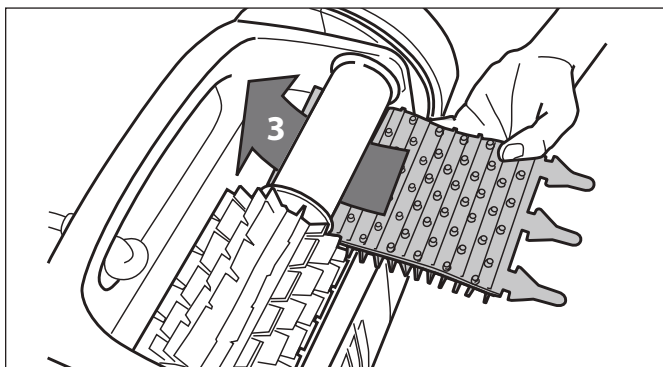

Figure 32. Install the New Brush
3. To install a new brush, position the new brush on the roller with the spikes facing downwards. Refer to Figure 32.